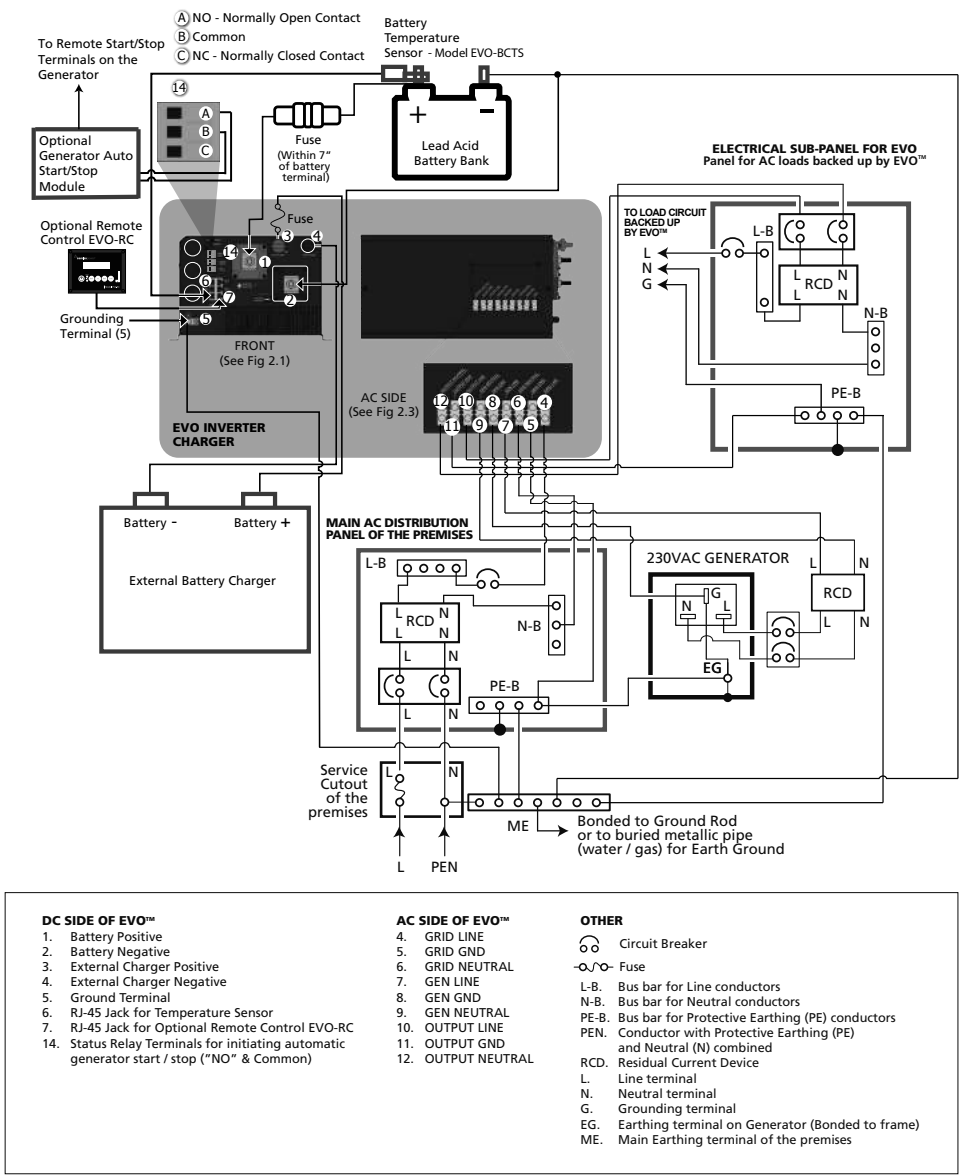

Fig 3.13 Typical Shore Based Installation for TN-C-S / Protective Multiple Earthing (PME) Distribution System
Fig. 3.13 illustrates a typical shore based installation
- Automatic Generator start/stop is possible as follows: (Please see Fig 3.13)
- When using generator, please ensure the following (Please see Fig 3.13):